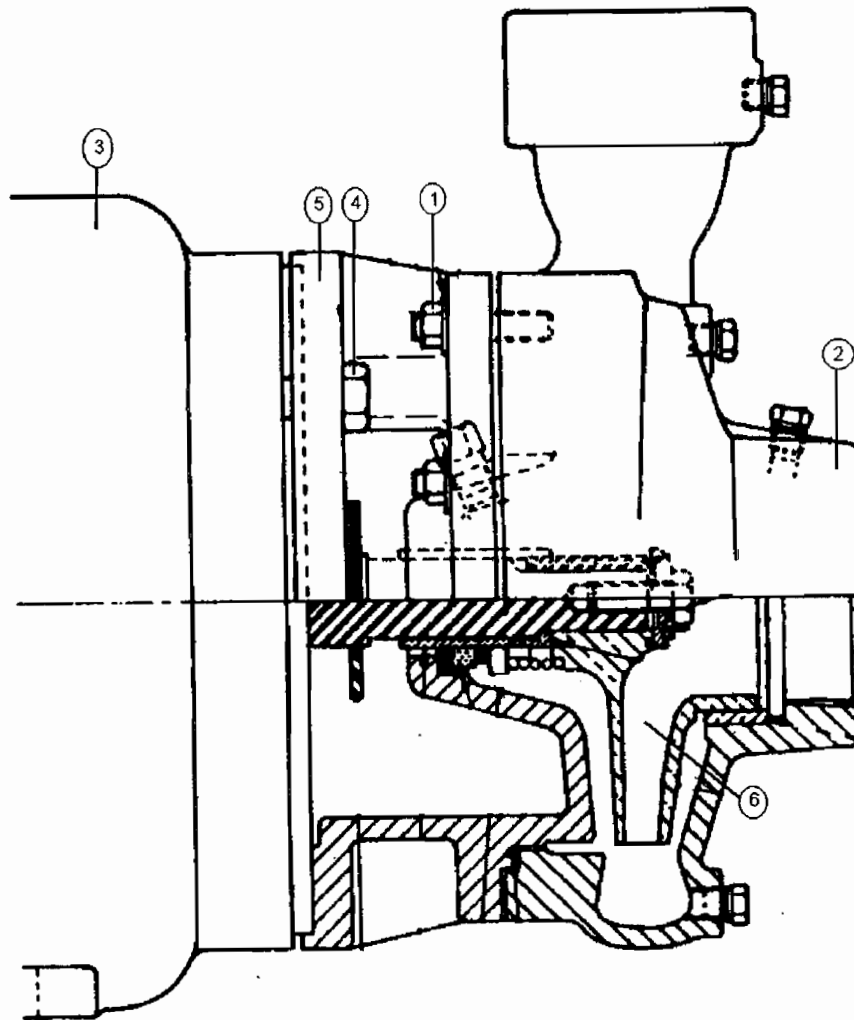

Figure 4-3. Bilge/Ballast Pump
a. Replace (Refer to Figure 4-3)